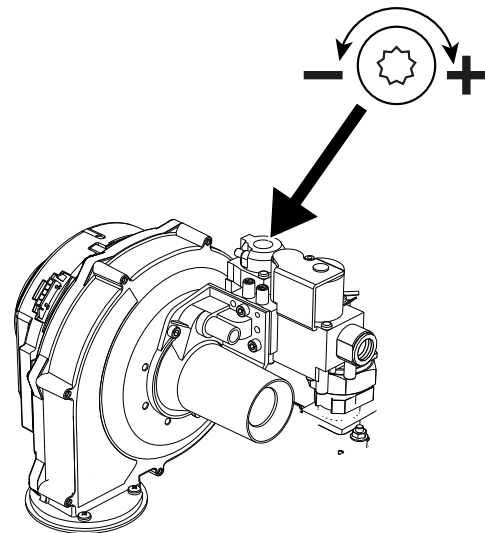

fig. 82- OFFSET minimum capacity adjustment screw
- If the values do not correspond to those indicated, adjust the CO₂ with the OFFSET adjustment screw (see fig. 82), bringing them back to those indicated.